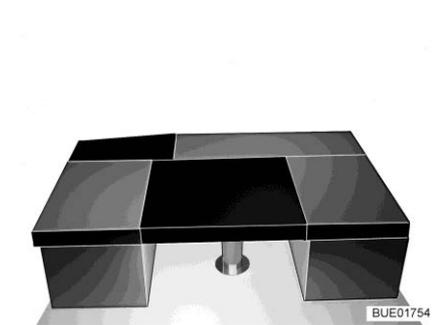

Fig. 84 After conversion
- Place the rectangular additional cushion on the table (between the seat cushions of the benches, see Fig. 84).